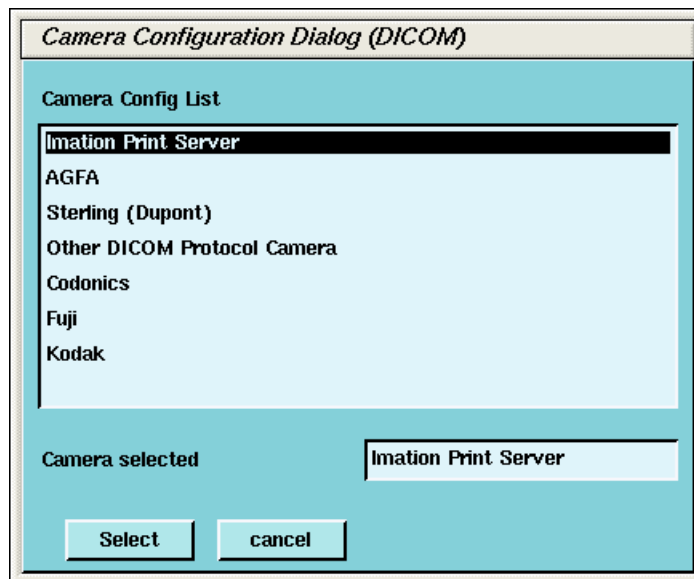

Figure 12-13 Camera Model Dialog (DICOM)
- a.) A list of camera models appears (See Figure 12-13). Select the appropriate model from the list and click SELECT. Clicking SELECT presets all the parameters to that models